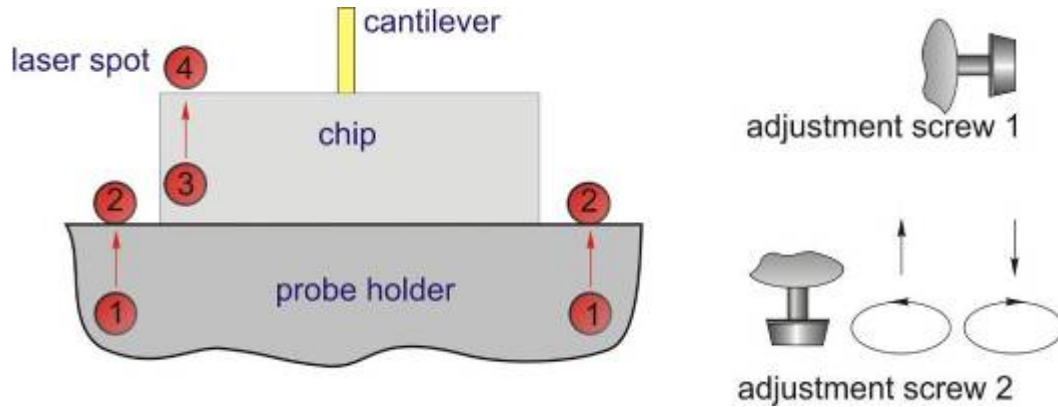

Fig. 2-46
2. If there is no laser image (case c) or the distorted image is seen on the screen (case b), move the spot in the direction from the holder perpendicular to the holder front edge until the undistorted laser image is seen on the paper screen. Position the spot just near an edge as shown in Fig. 2-46 turning screw 2 counterclockwise. Then notice the spot approx. position and proceed to step 4).
- Next, start turning adjustment screw 2 counterclockwise. The spot will move towards the chip front edge or the probe holder front edge. This is shown schematically in Fig. 2-46 as a travel from locations 1,3 into locations 2,4;
- In the process of travel, the laser image will change to undistorted one at a certain moment. This indicates that the laser beam is falling off the probe holder edge or the chip edge (Fig. 2-46, locations 2,4);